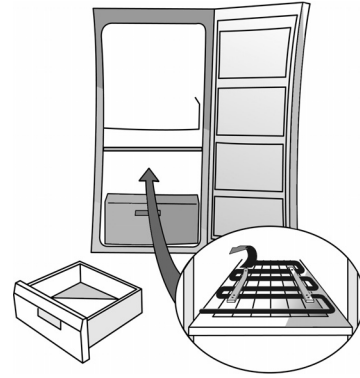

Fig. 1
- Fit the spacers (Fig. 1, 2, or 3, depending on the model)